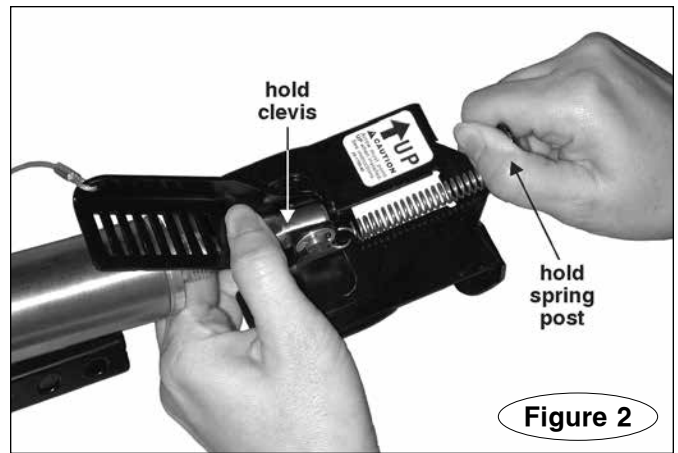

Figure 2
4. Move the pedal clamp over the brake pedal. Then, hold the clevis (Figure 2) and pull back on the spring post (Figure 2), until the tabs under the pedal clamp are wide enough to clear the brake pedal.